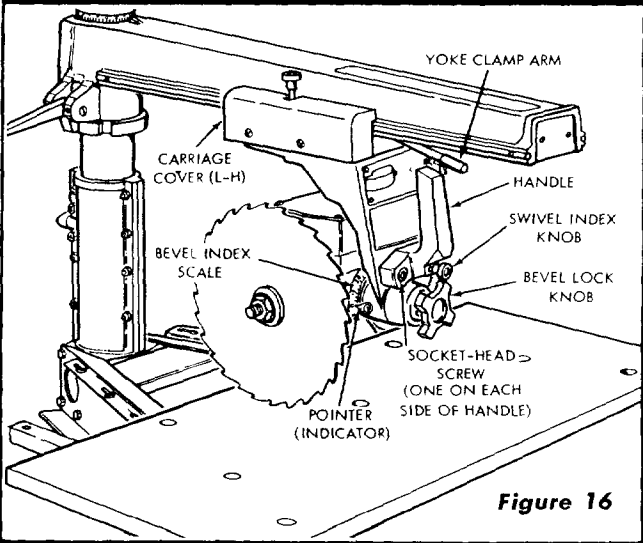

Figure 16
- a. Loosen the bevel lock knob just slightly and, with a 5/16-inch Hex-L wrench, loosen the two socket-head screws that secure the handle to the yoke. (See figure 16.) A screw is located at each side of the swivel index knob.
- b. Loosen the yoke clamp arm. (See figure 16.)